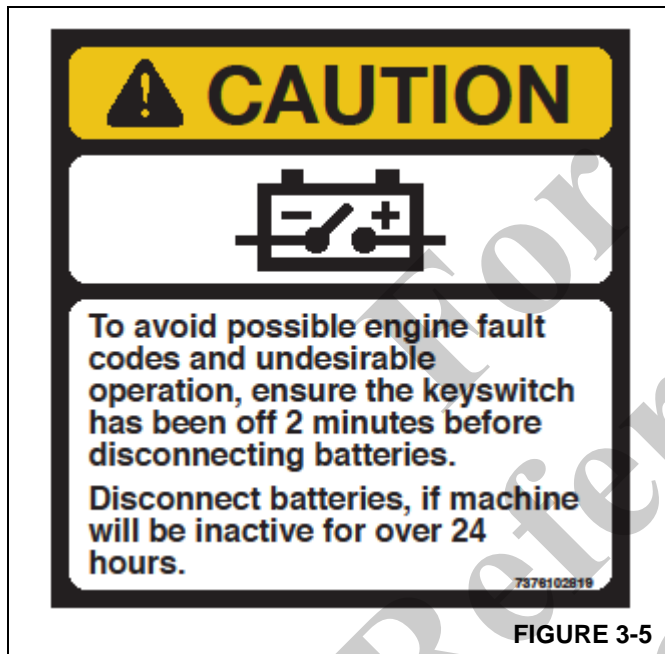

FIGURE 3-5
3. Connect leads to the battery terminals starting with the negative terminals (Figure 3-5)